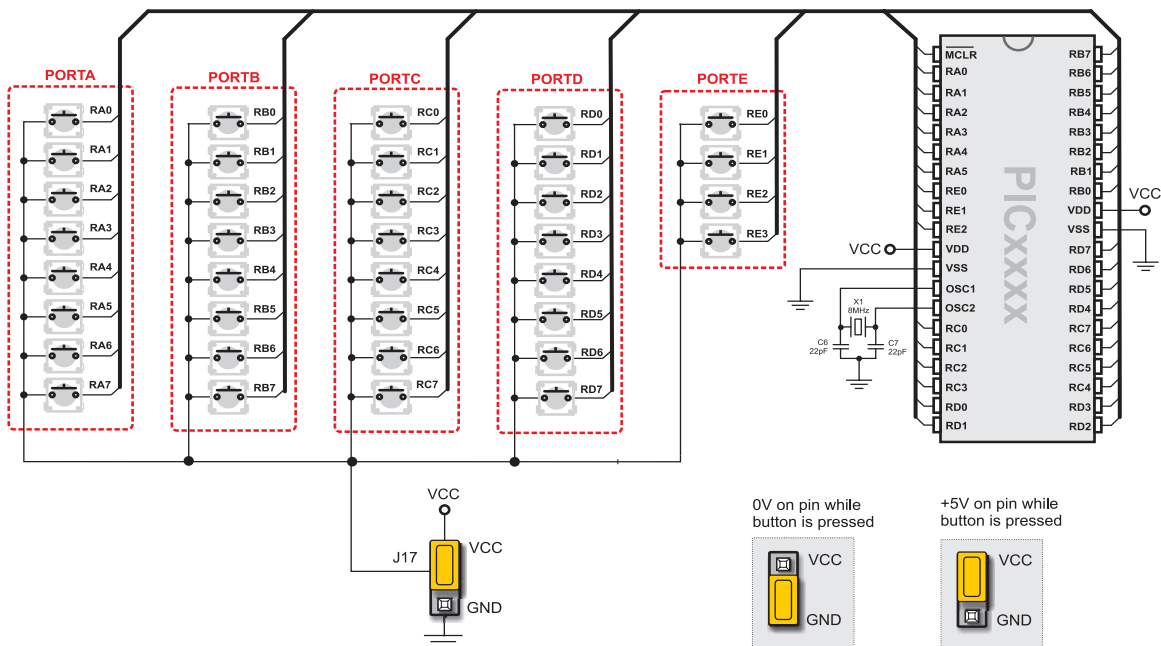

Figure 22 Push buttons circuit diagram
The EasyPIC5 has 36 push buttons which can be used to change states of digital inputs on the microcontroller ports. Connection between buttons and PORTA, PORTB, PORTC, PORTD and PORTE is shown in Figure 22. Jumper J17 determines whether a button press will bring logic zero (0) or logic one (1) to the appropriate pin. When the button is released, the pin state is determined by pull-up or pull-down port jumpers. As seen in the Figure below, J17 is connected to +5V, which means that the button press will bring logic one (1) to the appropriate pin.